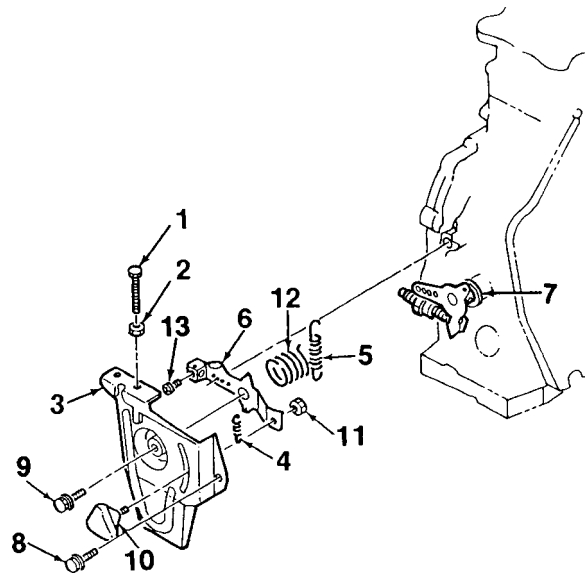

Figure 4-1. Governor Control Removal
1. Remove adjusting screw (1, Figure 4-1) and washer (2) from regulator bracket assembly (3).
2. Disconnect springs (4, 5) from governor lever (7) and manual control handle (6).
3. Release regulator bracket assembly (3) from cylinder block by removing screw (8).
4. Remove screw (9), knob (10), and nut (11). Remove screw (13) and spring (12).